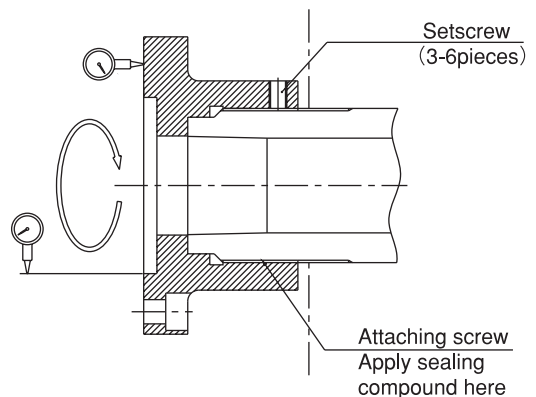

Fig. 9 Run-out measurement of the cylinder adapter
- Attach with the surface run-out of the cylinder adapter and the run-out of the spigot joint at 0.005 mm or less. (Fig. 9) Large run-out causes vibration and shortens the life of the cylinder significantly.
- Never fail to provide a setscrew to prevent loosening of the cylinder adapter. (Fig. 9)